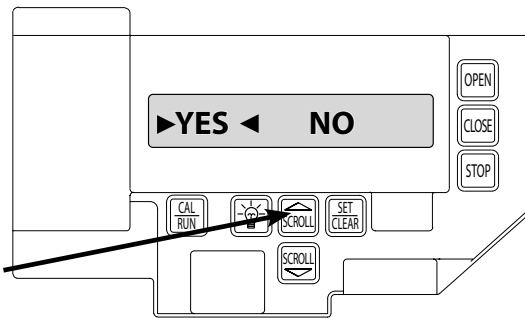

FIG. 4
4. Press SCROLL key (up or down) to toggle between YES and NO. FIG. 4. If YES is selected, no change to operator calibration is made. If NO is selected, the board will change the operator's down direction.